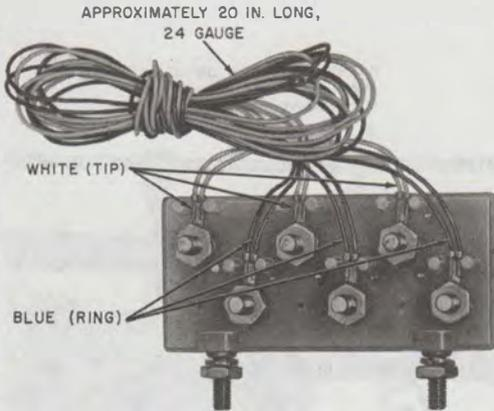

Fig. 22—3A3-3 Terminal Block
3.06 The 3A4-3 terminal block (Fig. 21) replaces the 3A3-2 and 3A3-3 (Fig. 22) terminal blocks for use in the 49-type cable terminal. The 3A3-2 and 3A3-3 terminal blocks will be rated manufacture discontinued (MD).